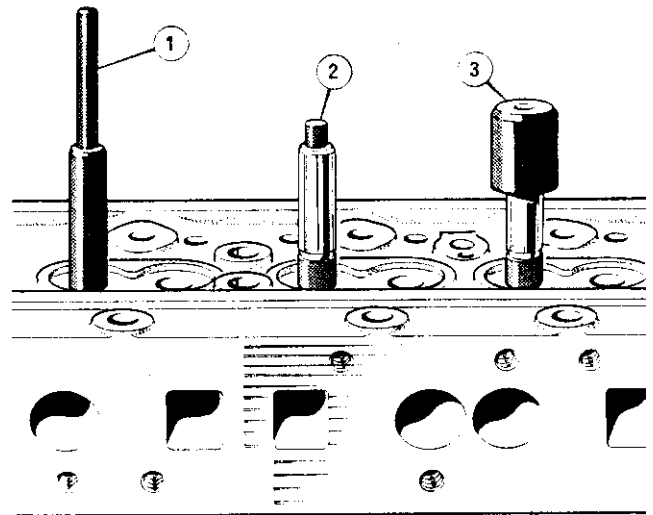

Figure 16 Valve guide removal and replacement
5. If valve guides are worn then remove them using special tool RT 7478 (Figure 16).